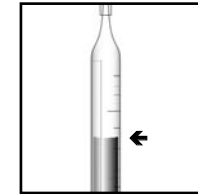

Figure 5
8. When the color of the liquid in the ampoule changes to **ORANGE**, remove the ampoule from the Titrettor. Hold the ampoule, **tip pointed upward**, and read the scale opposite the liquid level (fig. 5). Results are expressed in ppm (mg/Liter) sodium nitrite (NaNO_2).